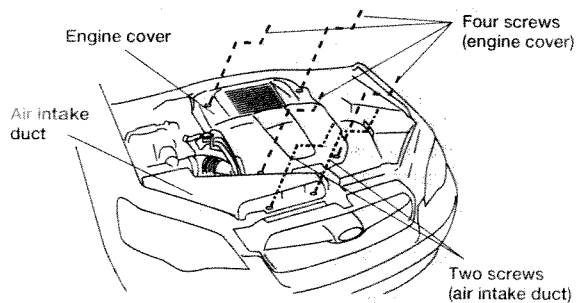

Figure 2-1
1. Remove the engine cover and the air intake duct. (Figure 2-1)